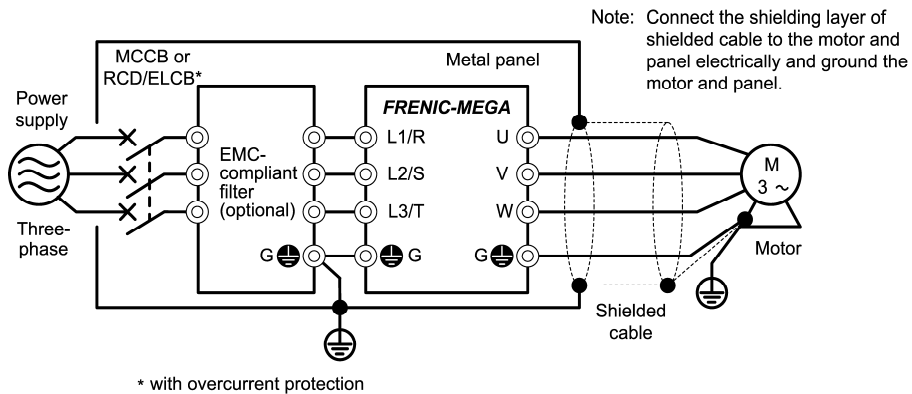

Figure 9.1 Mounting the Inverter with EMC-compliant Filter in a Metal Panel
- 3) If noise from the inverter exceeds the permissible level, enclose the inverter and its peripherals within a metal panel as shown in Figure 9.1.